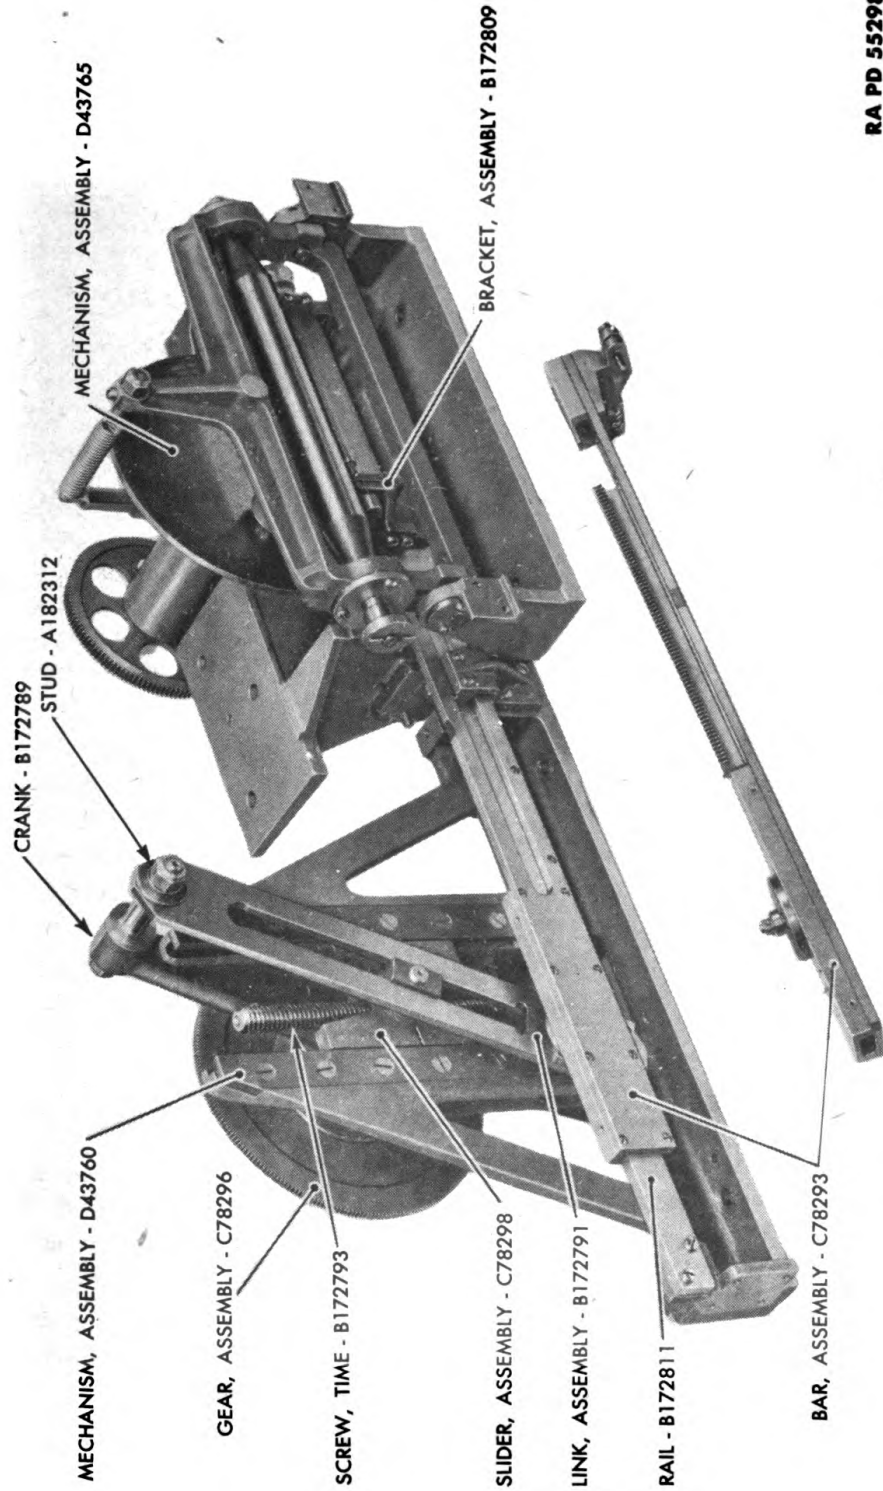

Figure 23 — Lateral Deflection Mechanism (Director M5 or M6)
(1) This is the heart of the azimuth mechanism. It is made up of the variable-speed mechanism, the multiplying mechanism D43760, the bar assembly and bracket which connect the two, and the rail on which the bar slides (figs. 23, 24, and 25).
(3) The elevation multiplying mechanism is similar to the azimuth multiplying mechanism described in paragraph 11 h, but it has a pair of bevel gears for coupling with the range mechanism in a different direction, as may be seen by comparing figures 23 and 38.